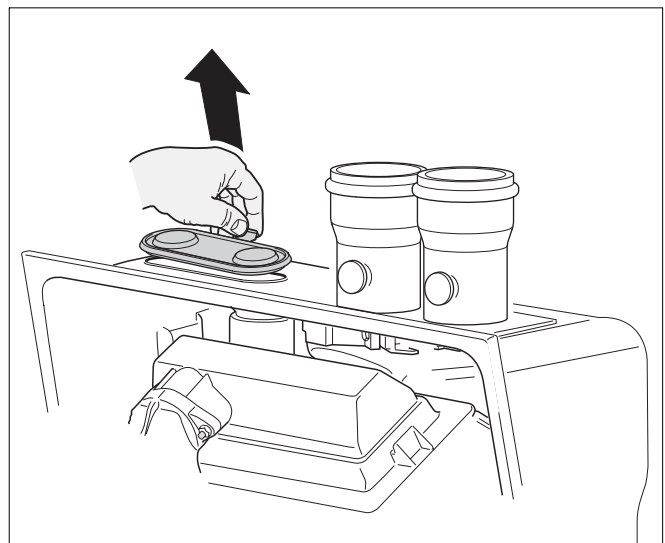

Fig. 101 Removing the plastic cover of the automatic air purging system
- Remove the plastic cover from the top of the appliance (see fig. 101).